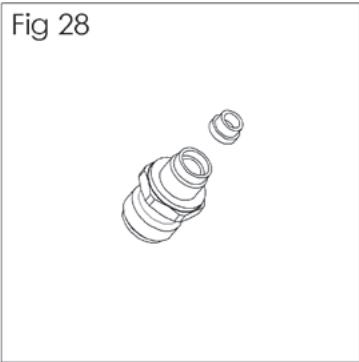

Fig 29
1. Remove air cap and retaining ring (6). (See fig 29).